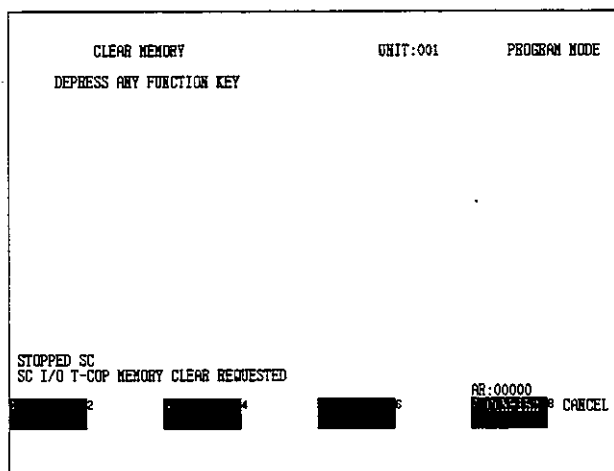

Figure 6.23
- 8) The screen shown in *Figure 6.23* will be displayed depending on the Label Key that was pressed. (See Note (5))